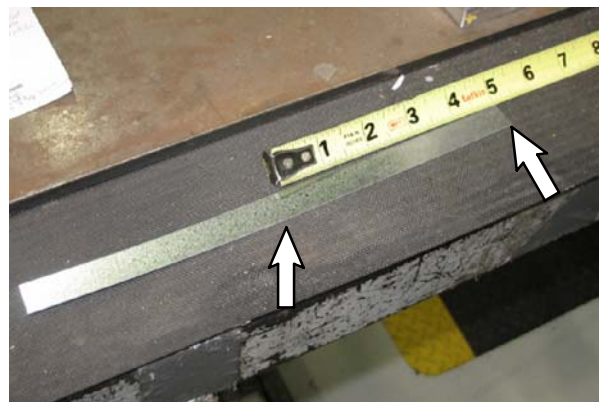

FIG. 5
- Measure and mark 5" from one end of the strip included with the turn signal switch (4). Refer to Fig. 5.